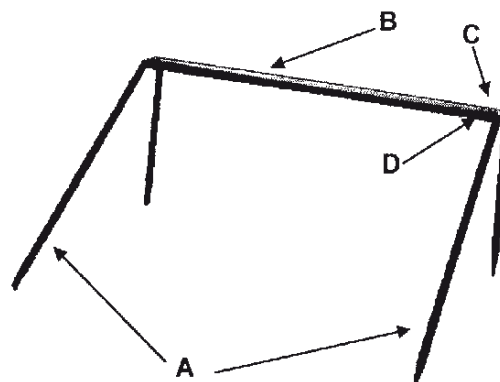

Figure 3.5 - Internal Frame Assembly
These components are fastened together using 3/16" x 1" round head screws (C) and 3/16" unc. nyloc nuts (D) (Refer Figure 3.5).